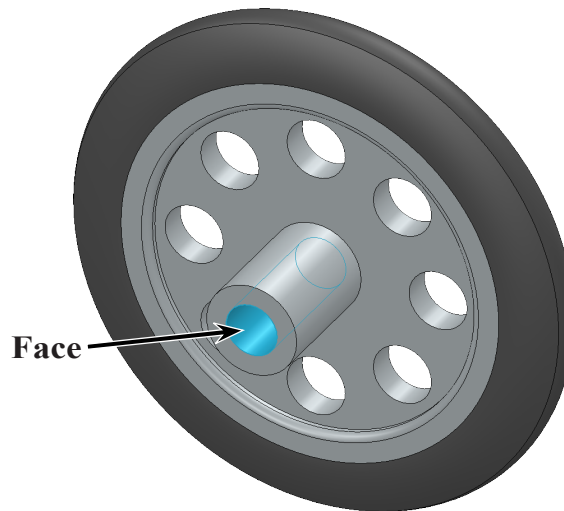

Fig. 6
Step 1. Rotate view to view **inside of rim hole**, **Fig. 6**. To rotate view, **Shift-Ctrl click the Y axis of the Reference Triad**  (bottom left corner of graphics area).
Step 2. Click the **inside cylindrical face of axle hole** to select it, **Fig. 6**.